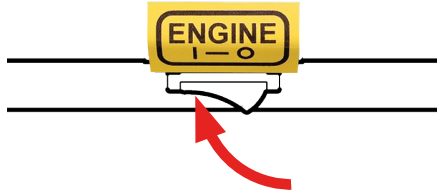

Fig. 9E - Start switch on.
5. Press the start switch (located with the control components) to the *on* position (Fig. 9E).